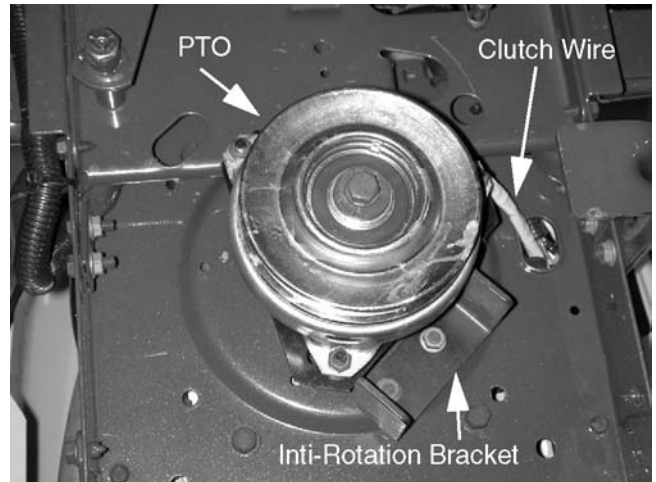

Figure 11-12
5. Record the position of the PTO clutch anti-rotation bracket and yellow PTO clutch wire. See Figure 11-12.